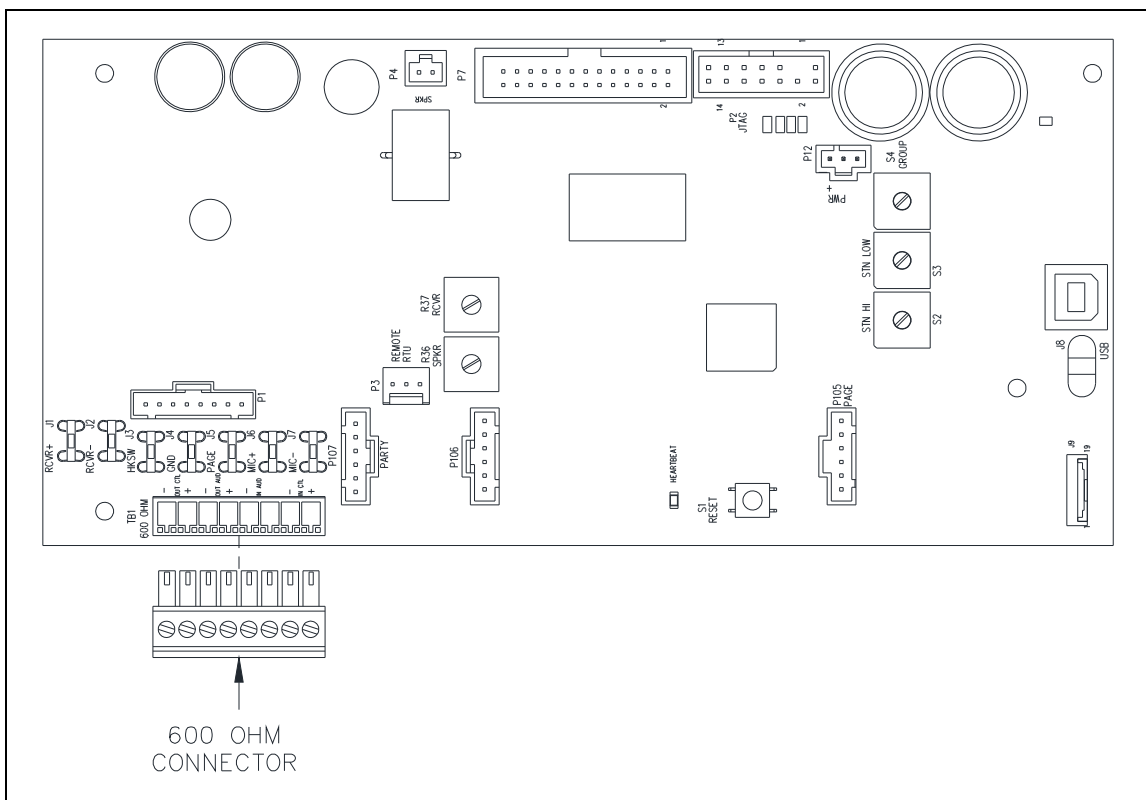

Figure 7. SP2 Main PCBA (POE)
3. Connect the 600-ohm audio wires to the pluggable terminal block for the 600-ohm audio I/O connection (see Table 4 and Figure 7).